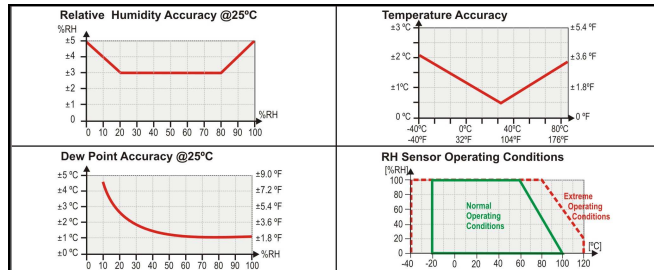

Figure 01 - RH and Temperature accuracies
- Accuracy:** Refer to Figure 01;
- Operating limits:** Sensor and probe (RHT/DM): see Figure 01;
Humidity sensor has a total span of 0 to 100 % and accuracy of 3% at 25 °C, as showed in Figure 01. This 3 % RH error is the same no matter if the total span is configured (0 to 100%) or a narrower span (like 20 to 80%).